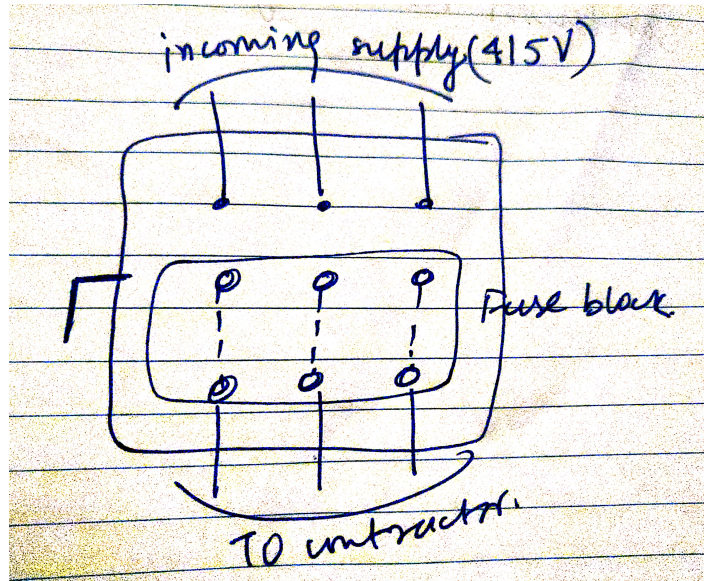

Figure 1.5: Schematic diagram of a Switch Fuse Unit
- Inside any panel, the electrical power goes through the following equipment-s in order:- SFU (415 V), Fuse, Contactor(125 A rating), Thermal Relay (only for over current). See Fig 1.5.